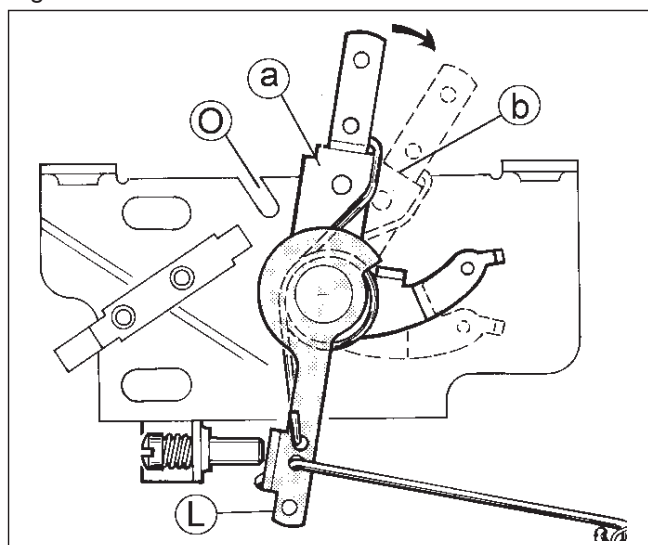
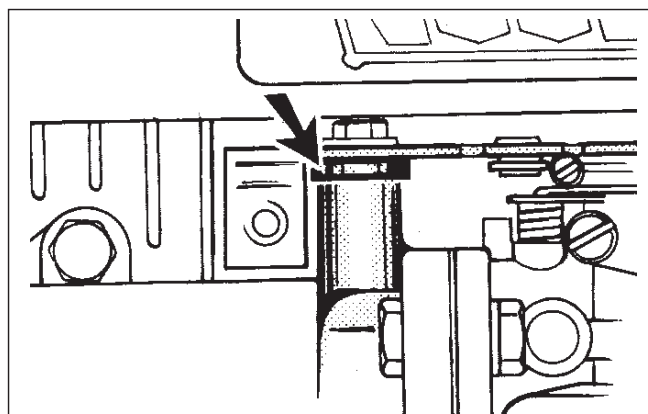

Fig. 16
Fig. 17
Having the hole (a) in lever (L) matched with the notch (b) in the control plate (Fig 16) maximum speed position is achieved and setting the lever (L) with the hole (a) matched to the notch (O) in the control plate idle speed position is achieved.
NOTE - The style of the carburettor control has changed. (Fig 16). The new carburettor control plate is completely inter-changeable. Should however the control plate touch the carburettor linkages, fit two washers under the fixing screws. (Fig 17).